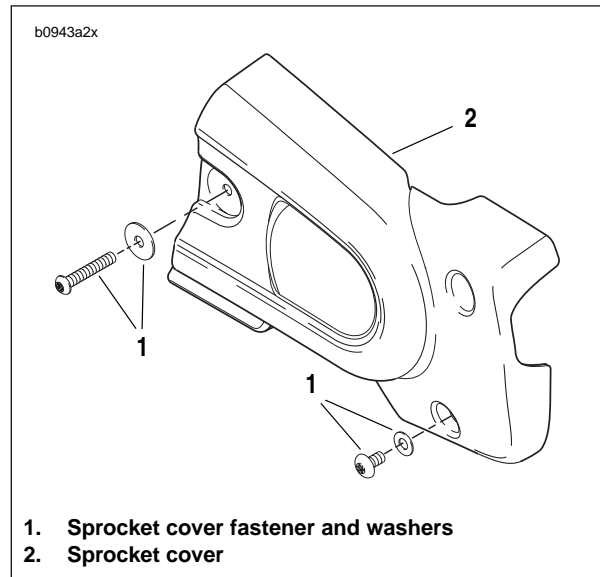
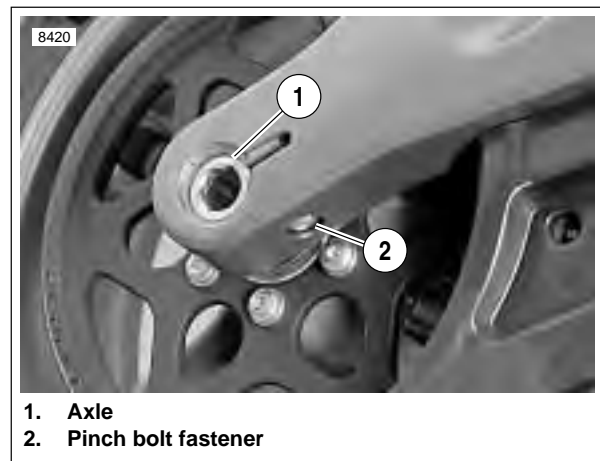

Figure 6-40. Sprocket Cover
Figure 6-41. Rear Wheel Mounting, Right Side
6. See Figure 6-40. Remove front sprocket cover (2) by removing fasteners. See 2.34 SPROCKET COVER.
7. See Figure 6-41. Loosen rear axle pinch fastener (2).
8. Loosen rear axle (1) approximately 15 rotations to allow partial tension to be removed from rear drive system.
5. See Figure 6-41. Tighten rear axle (1) to 23-27 ft-lbs (31.2-36.6 Nm), back off two full turns and then retighten to 48-52 ft-lbs (65.1-70.5 Nm).
6. Tighten rear axle pinch fastener (2) to 40-45 ft-lbs (54-61 Nm).
7. See Figure 6-40. Install front sprocket cover. See 2.34 SPROCKET COVER.